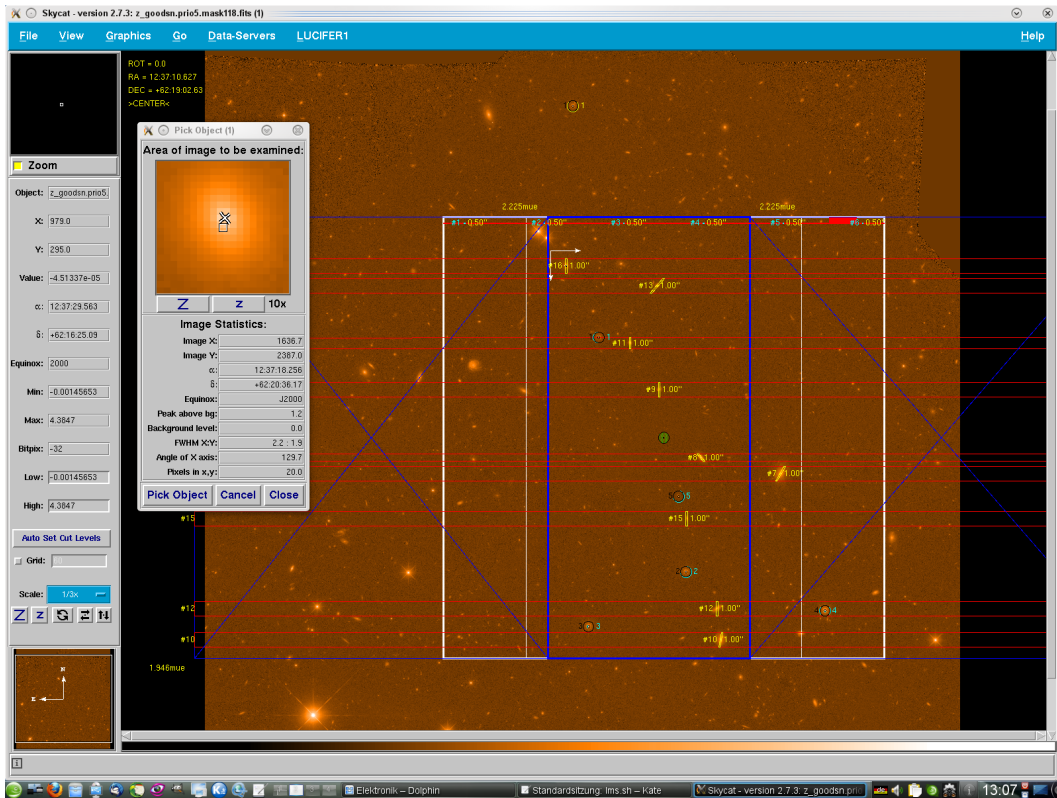

Figure 3.2: Screen shot of the slit generation process using `Center Slit`. The mask has been shifted, but not rotated relative to the image.
**Remark 1:** Presently (no adaptive optics available, seeing limited operation) 1 arcsec wide slits should be used to minimize slit losses by seeing. In case a single LUCIFER pre-image (no mosaic) is used, the mask is centered on the image, and the slits are positioned inside the white rectangle indicating low defocus (see Fig. 3.2), no distortion correction is required.
Fig. 3.2 depicts a typical situation for creating slits using the `Center Slit` option. The FITS-image is the same as in Fig. 3.1, but the mask has been shifted off-center, and the image has been magnified by pressing the **Z** button above the pan window in the lower left corner of the SkyCat window. The cyan circles numbered 1 to 5 are centered on the reference targets. The yellow circle number 1 is centered on the guide star.
Slit parameters can be modified by left clicking on the slit width label next to the slit image. In this case an entry window appears which lists the slit width and length in arcsec, the slit tilt in degrees, and the slit center position in mm from the mask center. When the `Enter` button in this entry window is pressed for the first time (even without changing parameters) two white arrows spanning a coordinate system are displayed, like the ones next to slit number 16 in Fig. 3.2. Their lengths correspond to 10 mm on the mask (in the telescope image plane), the arrows point towards the positive x- (horizontal line) and y-direction (vertical line). The lines should be helpful for changing the slit center position. The lines are deleted if the parameters of another slit are modified or if the image is redrawn (e.g. when zooming in or out).
The central green circle on the mask image (Fig. 3.2) has the function of handling the mask as a whole. In the following, the 2 mouse buttons (left, middle) are designated **B1** and **B2**. Their functions when clicking on the central green circle are: